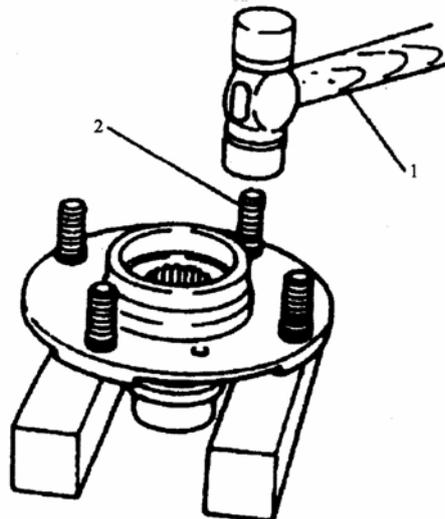

FIG.16-22 1.Hammer 2.Hub
(8) Put hub on a pad, and remove the bolt from hub using a hammer. (FIG.16-22)